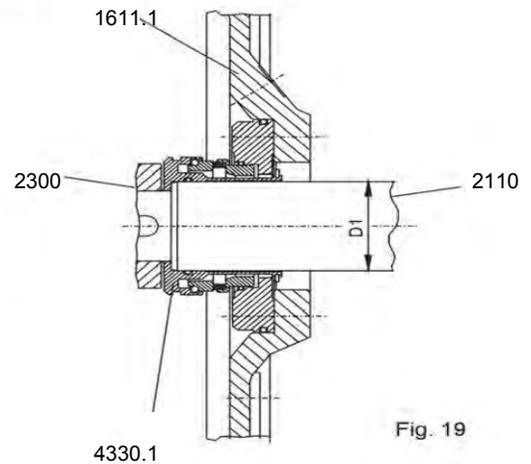

Fig. 19
6.2.1 Standard cartridge single mechanical seal (CSMS3) (Fig.19):